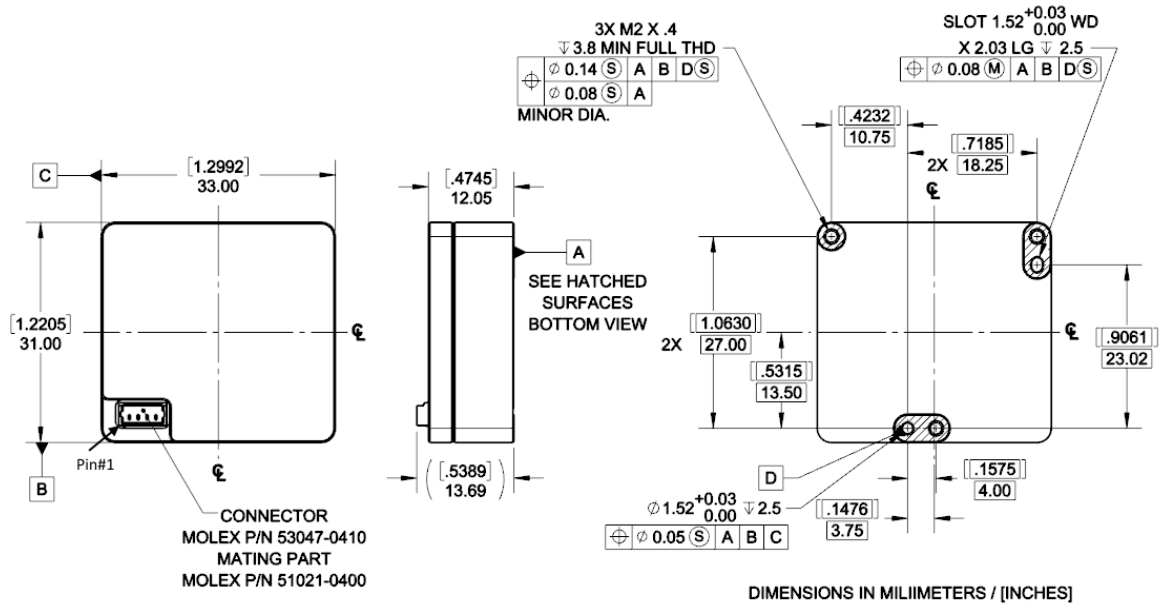

Figure 3-2: TPTCM Mechanical Drawing
1. Pin #1 is the left most position of the connector as indicated on Figure 3-2